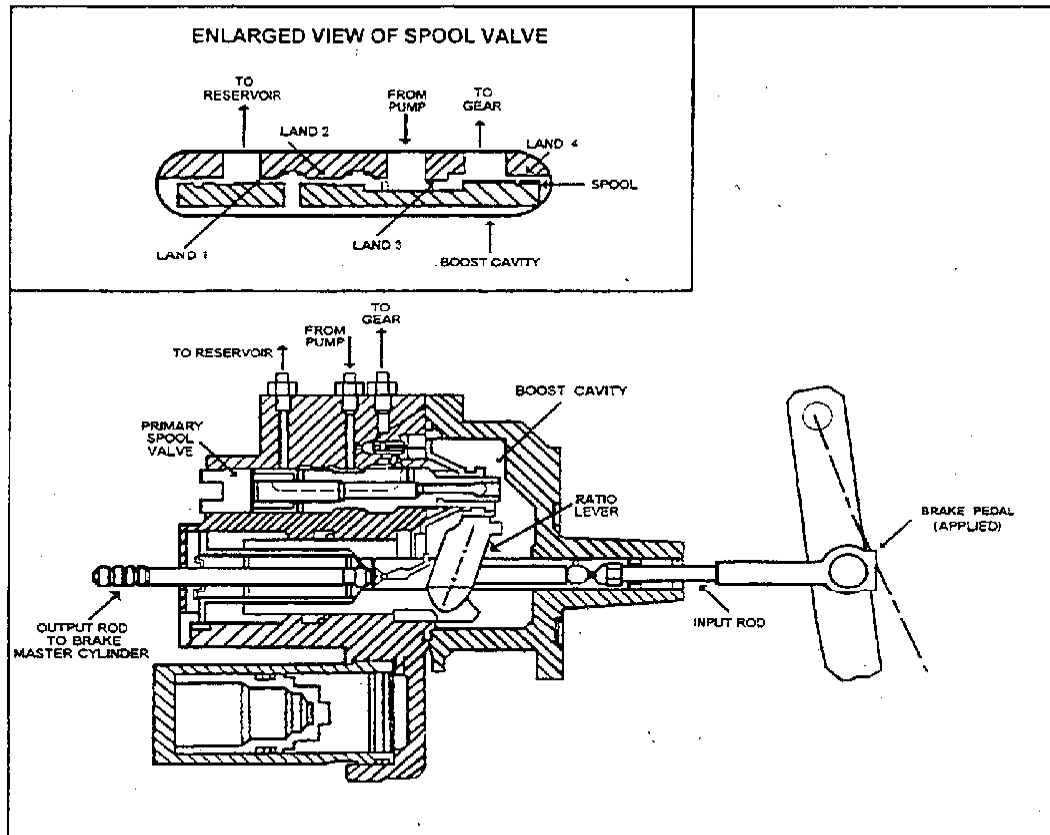

Fig. 7-2. Hydro-Boost - Brakes Applied
(3) The enlarged view of the spool valve illustrates the relationship of the valve's internal flow controls, called "lands," with the engine running and the brakes released. In this view, oil flows from the power steering pressure port, across the number 3 land and out the gear port, thus providing power steering assist.
(4) In the brakes released position, hydraulic pressure used by the steering gear and pump is isolated from the boost cavity by the position of the spool valve. With the spool valve in this position, lands number 2 and number 4 are blocked, thus preventing fluid pressure from entering the boost cavity. In this position, full fluid flow returns directly back to the reservoir.
d. Operation - Brakes Applied. Figure 7-2 illustrates the Hydro-Boost with the brakes applied (the master cylinder is not shown).. It operates as follows:
(1) As the brake pedal is applied, the input rod travels into the boost body, moving the ratio lever. The ratio lever operates the spool valve, which causes a variable force to be applied to the output rod that connects to the master cylinder.